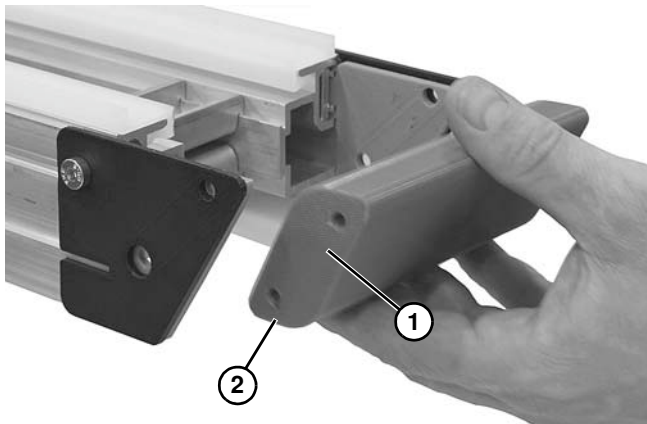

Figure 65
2. Remove bar (Figure 65, item 1), flip 180°, and re-install bar.
Bar may be flipped 180° to use second wear surface (Figure 65, item 2).